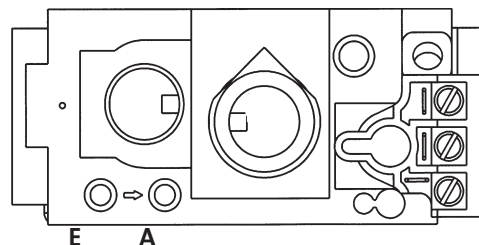

Figure 19. Pressure test points.
**Pressure Test:** Attach a manometer to the appropriate test point on the valve. See fig. 19. The gauge connections are located on the front of the valve under the On/Off/Pilot- knob. Gauge connections are identified by: